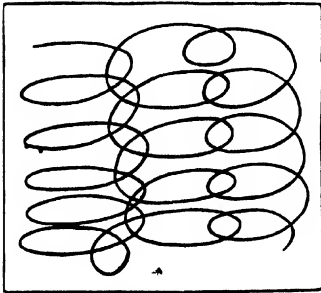

Fig. 304. Direction of the Pad in French Polishing.
(1) Preparation. The surface of the wood must be perfectly smooth and even, sandpapered in the direction of the grain, stained, if desired, filled, rubbed smooth and quite dry. (2) Apply two or three thin coats of shellac. After each coat when dry, rub with No. 00 oiled sandpaper or No. 00 steel wool. Wipe thoroly. (3) Make three pads, about the size of a walnut, of clean, white, cotton waste, enclosed in some fine old or washed cloth with no sizing or lint,—one pad for shellac, one for oil, and one for alcohol. Fill one pad with shellac of the consistency of milk, enough in the pad so that when squeezed hard it will ooze out. The common mistake is to put too much shellac into the pad. Rub with circular motion, as indicated in Fig. 304, never letting the pad stop on the surface.